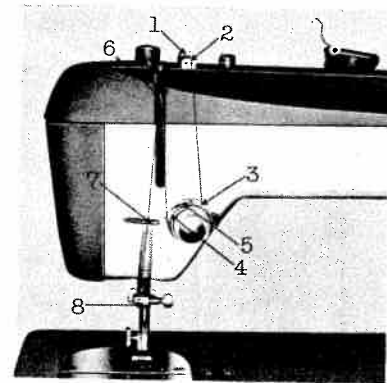

Fig. 11
2. Place a spool of thread on one of the spool pins. (Fig. 11).
3. Lead thread through thread guides (1) and (2) on top cover.
4. Down and around one set of tension discs (3) from right to left.
5. Up into check spring (4).
6. Continue pulling thread upward and at the same time with tip of forefinger of other hand lightly hold spool of thread. This will cause thread to enter notch (5).
7. Lead thread up and through take-up lever (6) from right to left.
8. Down into thread guide (7).
9. Into needle bar thread guide (8) and through needle eye from FRONT to REAR, pulling three to four inches of thread through needle.